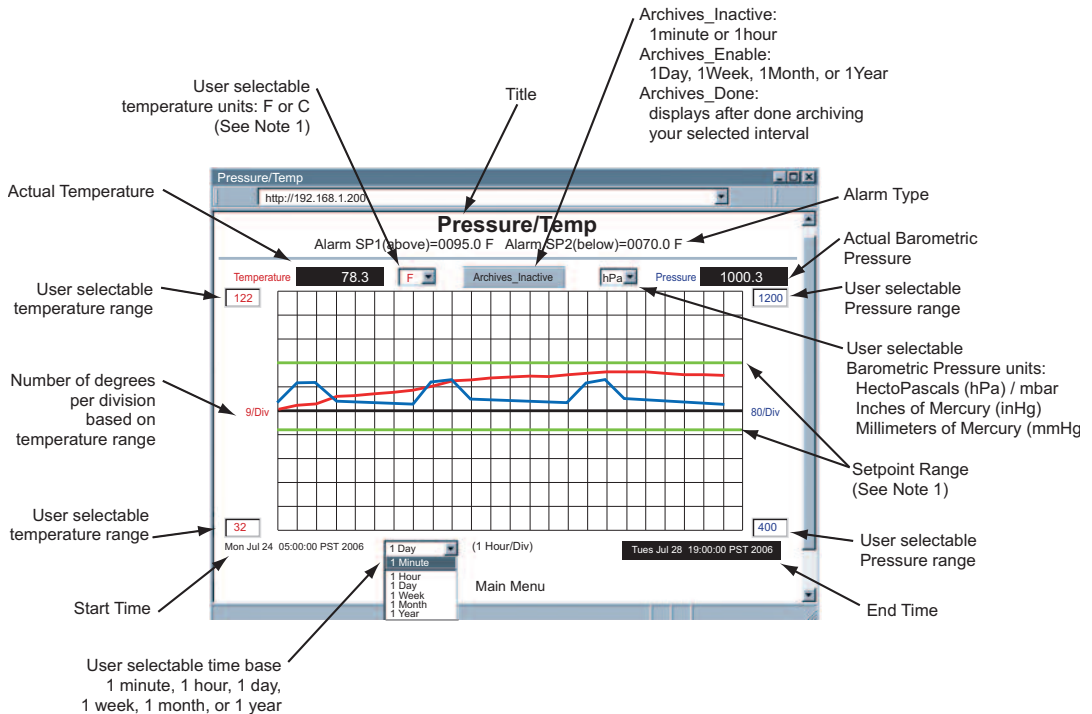

Figure 4.8 Adjustable Chart
- Click on [Chart], the following page (**Figure 4.8**) should appear. The Java™ Applet graph displays Temperature and Barometric Pressure and can be charted across the full span (-40 to 123°C) or within any narrow range (such as 20-30°C). The time-base can display one minute, one hour, one day, one week, one month or one year.